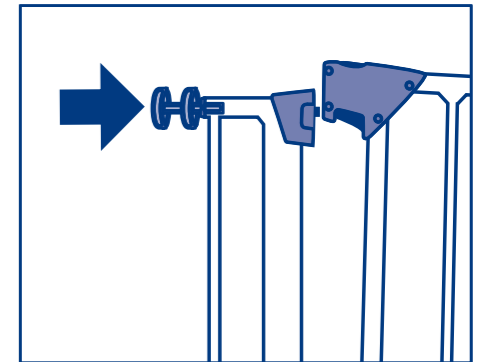

Fig. 3
- Insert each tension bolt into the holes on the outside of the gate. (Fig. 3)